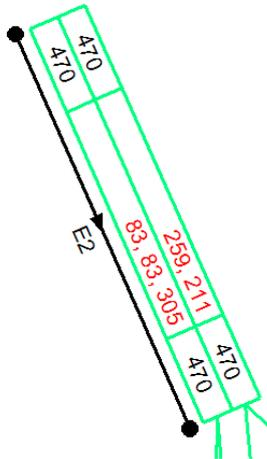

Figure 4.14 : Lane Flow Components with no Flow Aggregation
- In the Lane Flow Aggregation and Display Settings section of the Route Manager, select 'none' for the aggregation setting and 'Origin' for the 'Colour Flows by' setting. Ensure the Route Filter settings are set to 'All' to ensure all Route Component Flows are shown. Arm E2 will be as shown in Figure 4.14 with the Lane Flow Components showing each individual Route Flow.